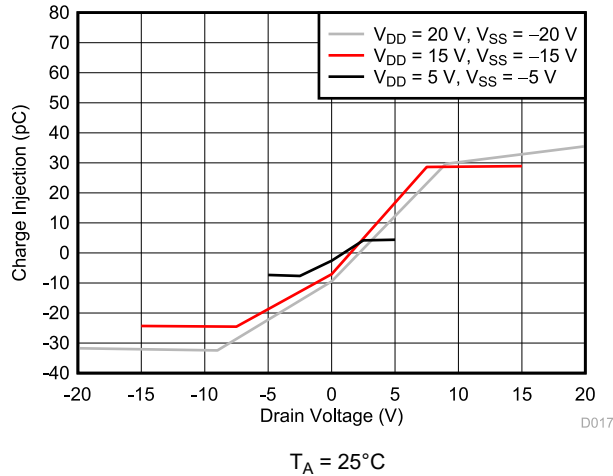

图 9-3. Charge Injection vs Drain Voltage
The low on and off leakage currents of TMUX7208 and ultra-low charge injection performance make this device ideal for implementing high precision industrial systems. The TMUX7208 contains specialized architecture to reduce charge injection on the drain side (D) (see 节 8.3.7 for more details). 图 9-3 shows the plot for the charge injection versus source voltage for the TMUX7208.